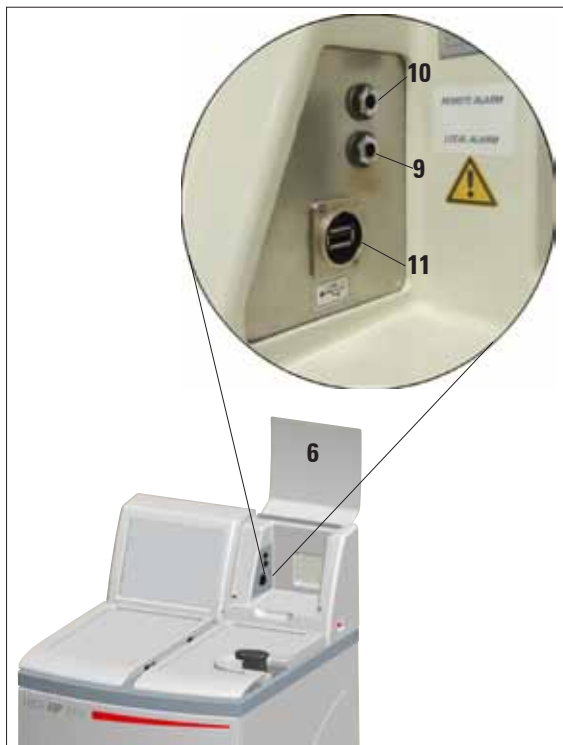

Fig. 8
If required, connect the local or remote alarm system to the appropriate sockets (34) (Ø 6.3 mm) using the stereo jack provided (9, 10 in Fig. 8).